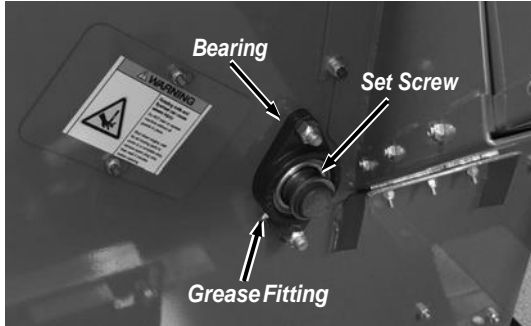
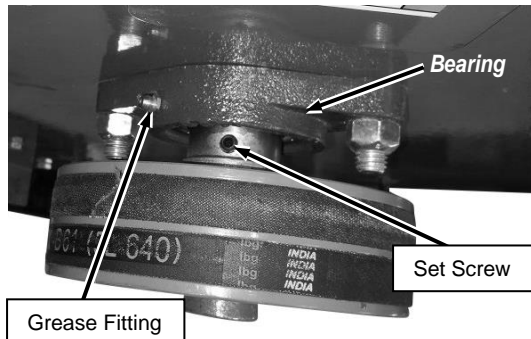

Figure 38
Figure 39
5. Wipe all debris from the grease fitting on the Hopper side (**Figure 38**) and the Belt side (**Figure 39**) with a clean cloth.